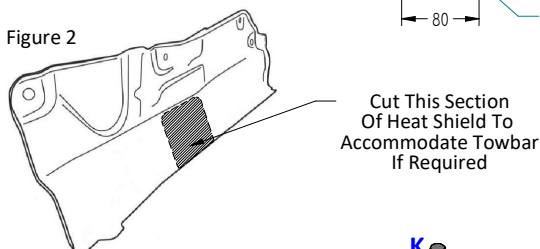

Figure 4
3. Loosely fix item **A** to items **B1**, **B2**, **C1** and **C2** to the correct position as shown in **Figure 4** using items **J** with Items **M**.